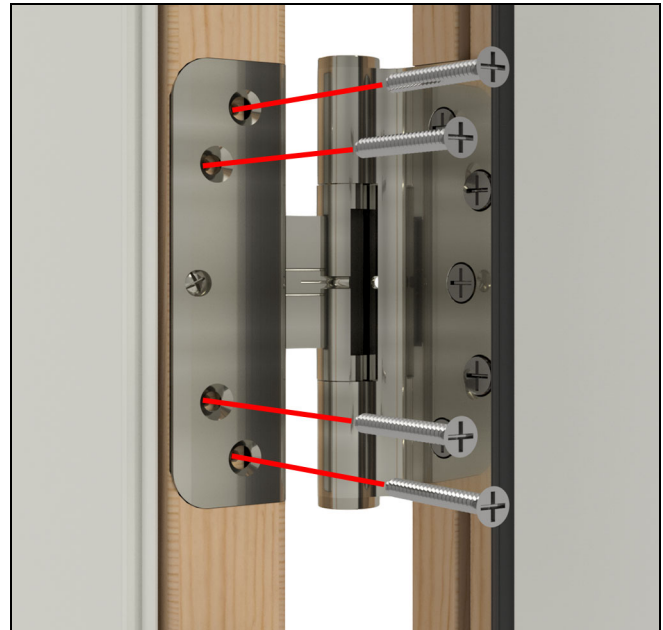

Figure 29
4. Fasten the panel leaf on the hinge to the panel with 1 1/2" screws. See Figure 29.